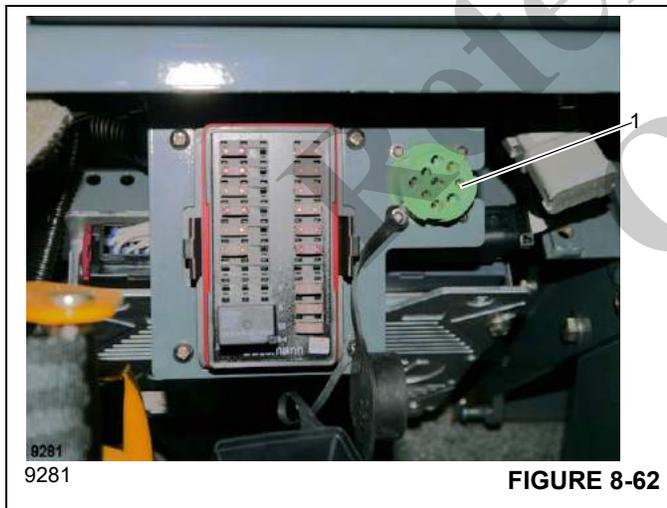
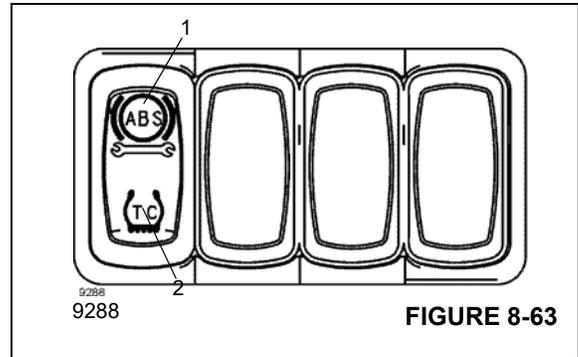

FIGURE 8-62
FIGURE 8-63
The 9-pin on board diagnostic connector (1), (Figure 8-62) is located under the dashboard to the left of the steering column. The ABS diagnostic switch (1), (Figure 8-63) is located near the lower left of the control panel as shown in (Figure 8-63).
3. Communicates the appropriate trouble code information over the serial communications diagnostic link as required. Hand-held or PC-based diagnostic tools attach to the vehicle on-board diagnostic connector, located under the left-side dash as shown in (Figure 8-62).